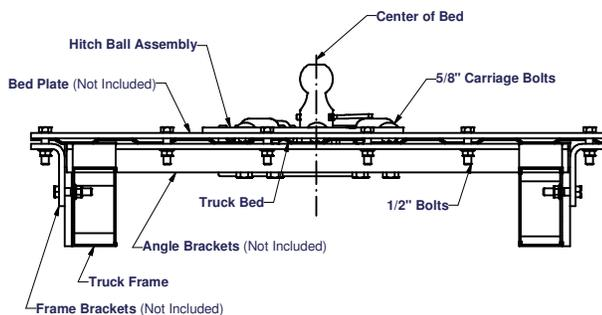

FIGURE 5
8. Drill 17/32" holes in front and rear of plate. (Figure 5)
11. Place brackets along each side of truck frame taking care to avoid cross members or other parts. Drill 17/32" holes through bed and plate. (Figure 5)
13. Drill 17/32" holes through lower angles of brackets and through the truck frame. (Figure 5) Holes must be in center of frame.